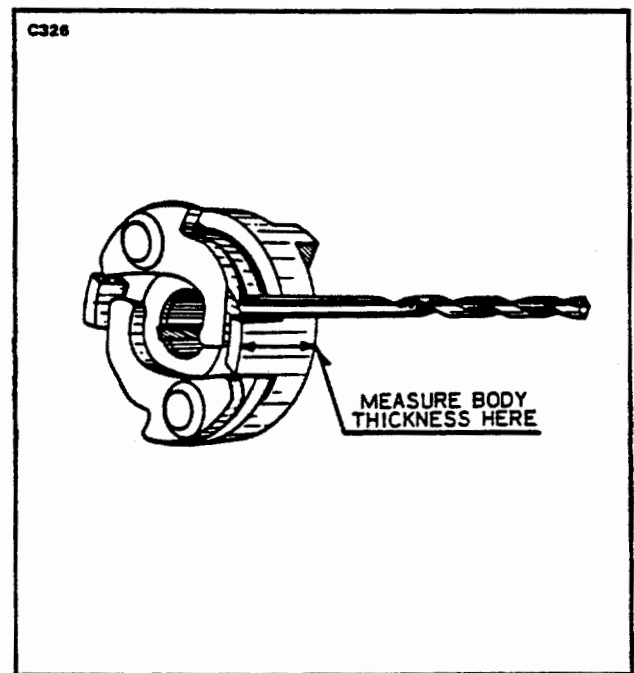

Figure 8-16. Impulse Coupling Inspection
9. Inspect pulse coupling (-21 and -204 magneto) flyweights for excessive looseness on the axles. Design couplings having .927 inch thick body should be checked with $\frac{1}{8}$ inch drill. Couplings with .974 inch thick body are checked with a No. 18 drill. If drill fits between cam and flyweight, the fit is too loose and coupling should be replaced. (Refer to Figure 8-16.)